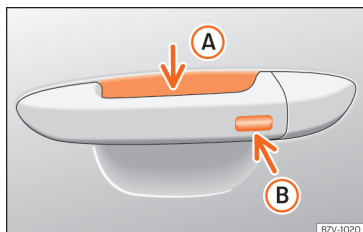

Fig. 48 Door handle: sensor surfaces.
»» Fig. 48
- Touch the sensor surface Ⓑ >>> Fig. 48 on the outside of the door handle. All turn signals flash once.
- Within 5 seconds, touch the sensor on the outside of the door handle once >>> Fig. 48 Ⓑ. Do not grip the handle while doing so. This temporarily deactivates the Keyless Access system.
To close all the electric windows using the comfort function, keep a finger on the locking sensor surface >>> Fig. 48 Ⓑ (arrow) of the door handle for a few seconds until the windows have closed.